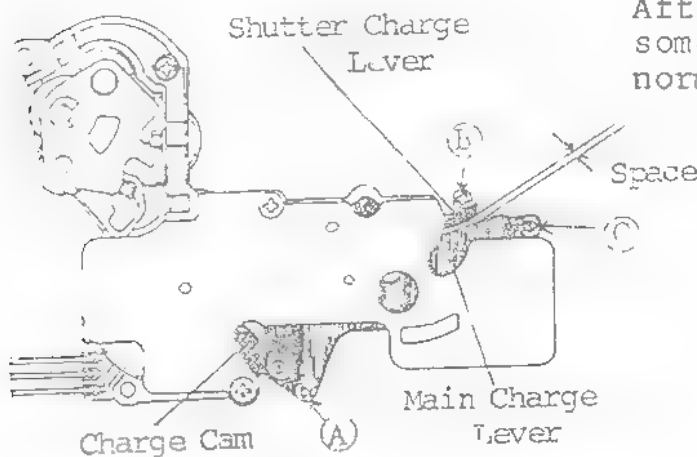

Fig. 1: Charge Complete
2. If not within tolerances, change the adjusting collar (Fig. 1).
The 1st curtain starts first and then the 2nd curtain. To insure proper setting of the 2nd curtain, after adjustment (B) must have some possible movement in the normal direction (Fig. 1).